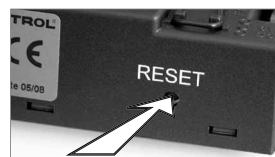

Figure 16
- Press and hold the receiver's reset button (see figure 16) until you hear two (2) beeps. The first beep is short and the second beep is long. After the second beep, release the reset button.